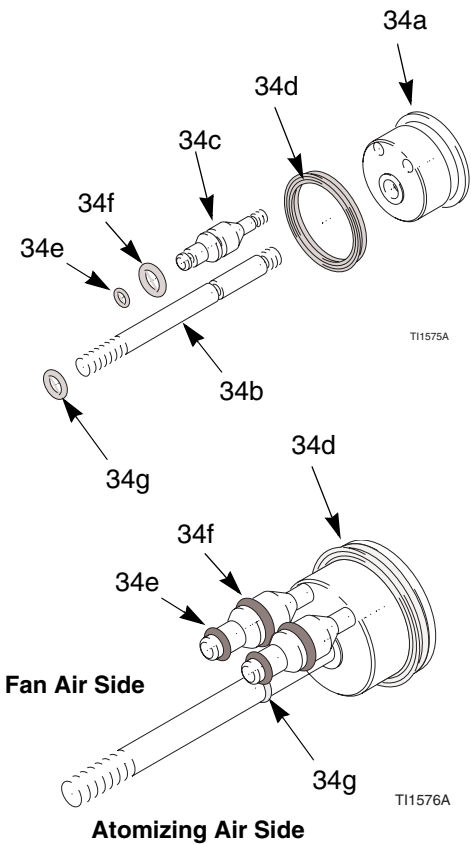

Fig. 26. Piston O-Rings
- 5. Inspect the o-rings (34e, 34f, 34g) and u-cup packing (34d) for damage. See Table 5 and FIGURE 26.